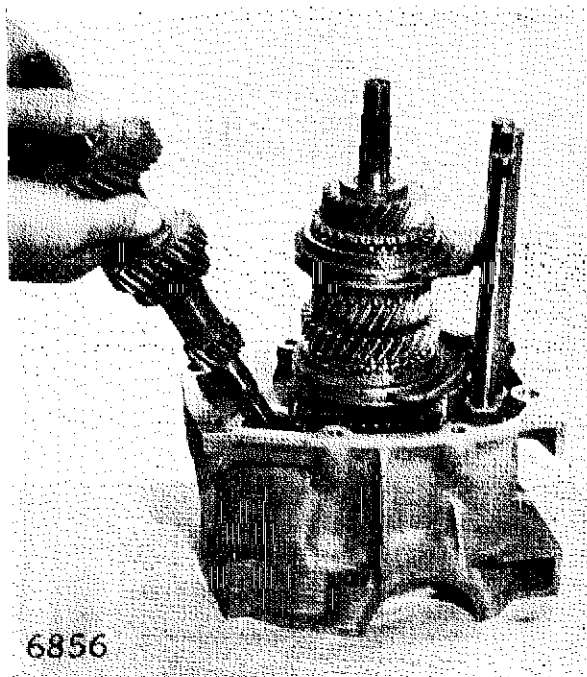

Fig. 17. *Removing input shaft cluster*
Lift out the input shaft cluster (42) as shown in Fig. 17.